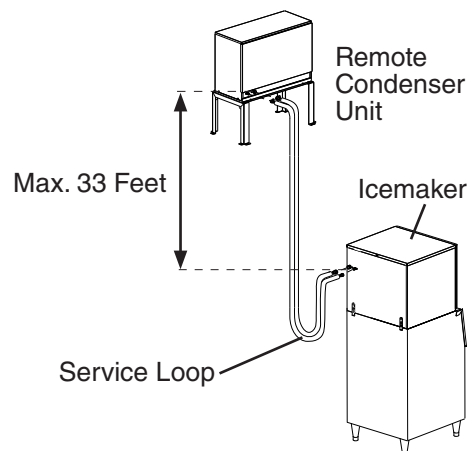

Fig. 10
- The maximum vertical distance between the remote condenser unit and the icemaker is 33 feet above or 10 feet below the icemaker. These distances are measured fitting to fitting. See Fig. 10.